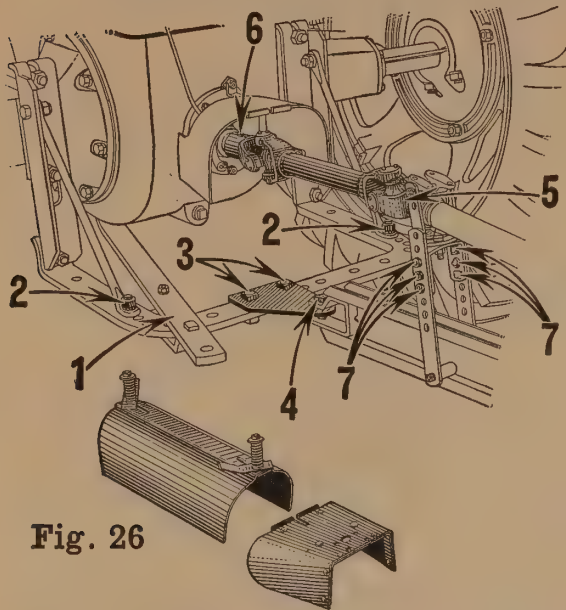

Fig. 26
†1. (Fig. 26.) Move swinging drawbar to the L. H. side of drawbar guide. Secure in this position with a bolt.
2. (Fig. 26.) Bolt tractor drawbar braces to drawbar as shown. This is necessary to locate "point of hitch" at the correct height.
3. (Fig. 26.) Bolt extension drawbar plate to top side of tractor drawbar.
4. (Fig. 26.) Connect Binder to extension drawbar plate.
5. (Fig. 26.) Remove tape around key in front end of telescoping pipe for power drive. Remove cap screw, lugged lock washer and notched retaining washer from front end of telescoping pipe. Slide rear universal joint onto front end of telescoping pipe, and replace notched retaining
6. (Fig. 26.) Slide front splined universal joint onto take-off shaft on tractor and secure in place with clamp bolt.
7. (Fig. 26.) Adjust the height of power shaft front bearing as shown.